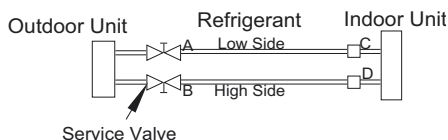

Fig. 19 – Service Valve
1. Completely tighten flare nuts A, B, C, D, connect manifold gage charge hose to a charge port of the low side service valve. (See Fig. 19.)